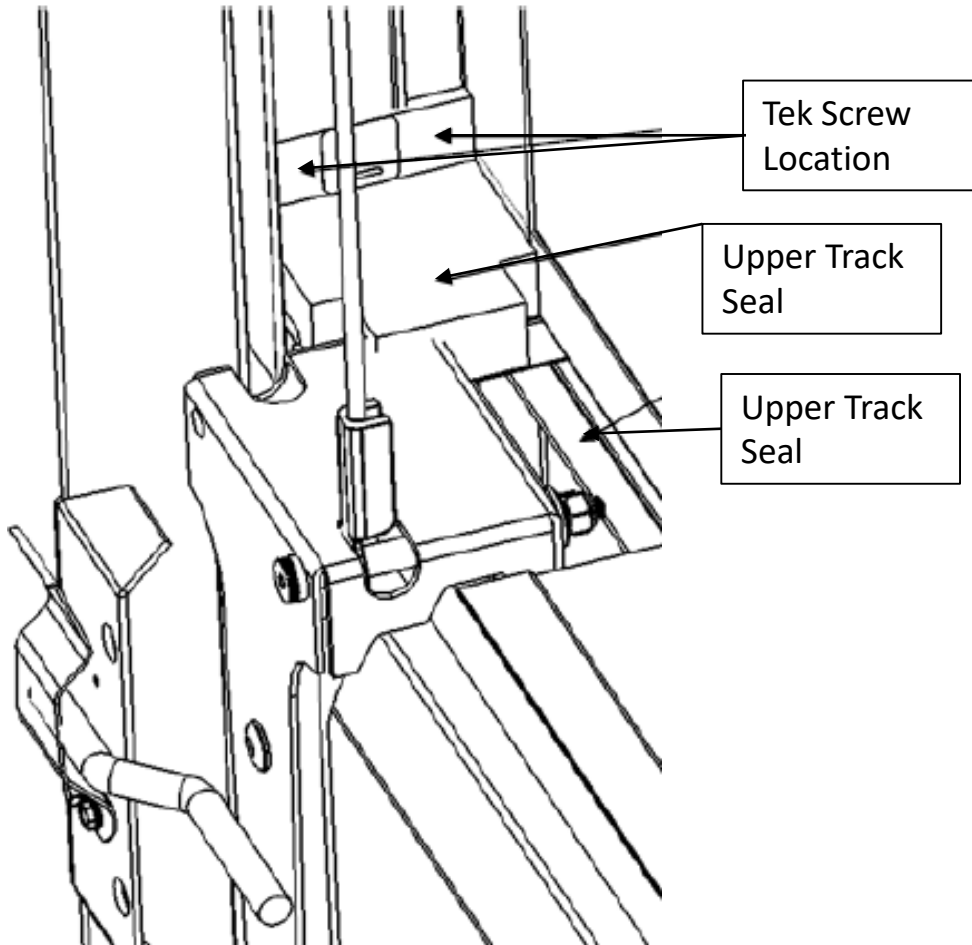

Figure 20. Installing Upper track Seal.
2. Starting on the left side of the door, locate the upper track seal as shown in **FIGURE 20**. Fasten the seal to the mounting rail using the supplied tekscrews CP2189.